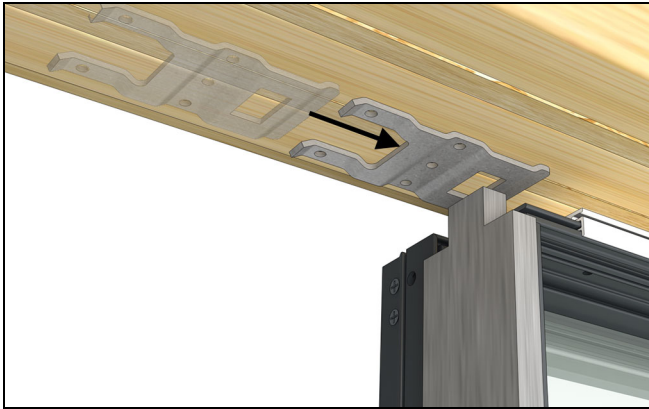

Figure 48
14. Slide the top mull bracket so that it fits over the tab on the mull steel. See Figure 48.